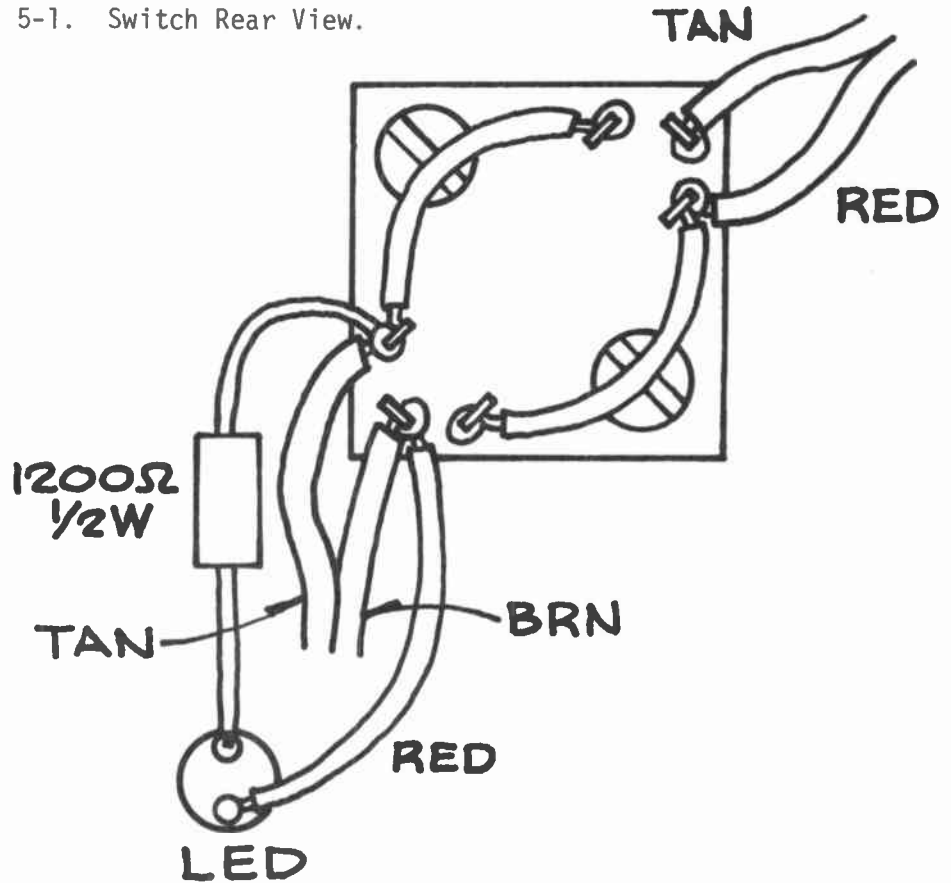

Figure 5-2. Switch Connections.
- d) Insert the replacement switch body through the front panel. Slide the metal retaining bracket over the rear of the switch assembly and replace the two screws in the bracket assembly. Rewire the switch assembly according to figure 5-2.